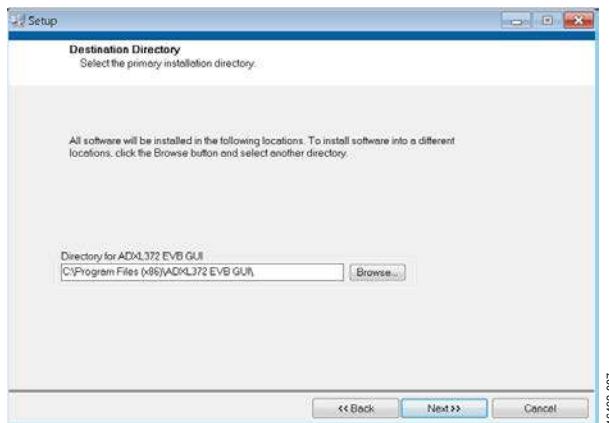

Figure 7. ADXL372 Evaluation Board GUI Destination Director Selection
1. Select the destination directory. The installer autopopulates the names of the directories in which to store the software GUI and required National Instruments products (see Figure 7). You can change these directories; however, most installations can proceed with the default values.